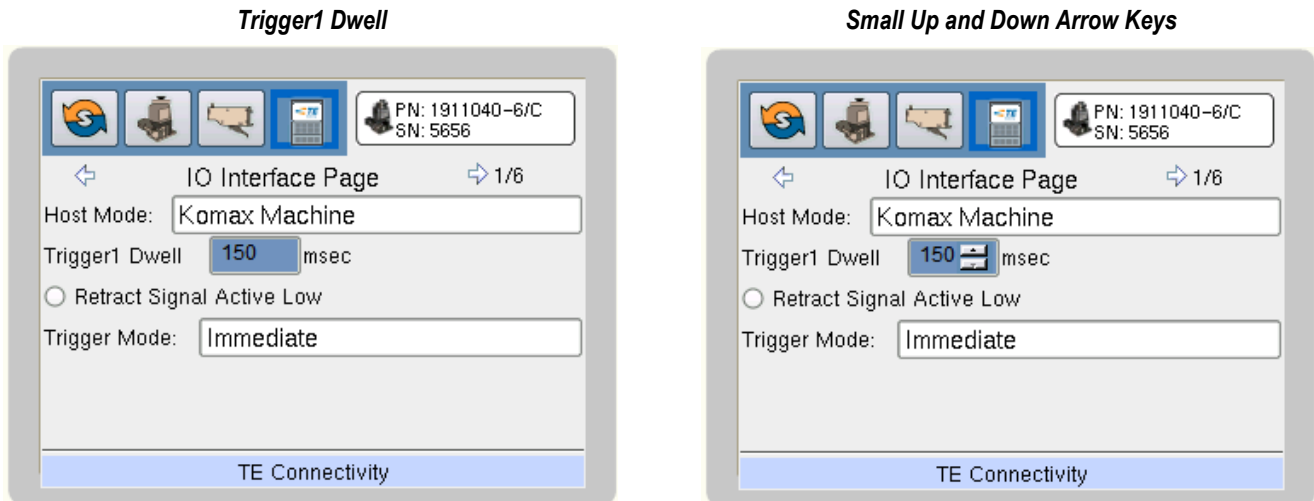

Figure 39
3. Use the Down navigation key to move to “Trigger1 Dwell”. See Figure 39. To change the value of the Trigger1 Dwell field:
- b. Small Up and Down arrow keys will appear inside the field box for “Trigger1 Dwell”. See Figure 39. Use the arrow keys to increase or decrease the Trigger1 Dwell time.